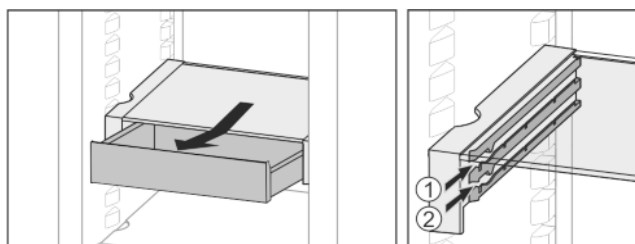

Fig. 21
- Slide back at the height you want Fig. 21 (1) or Fig. 21 (2).